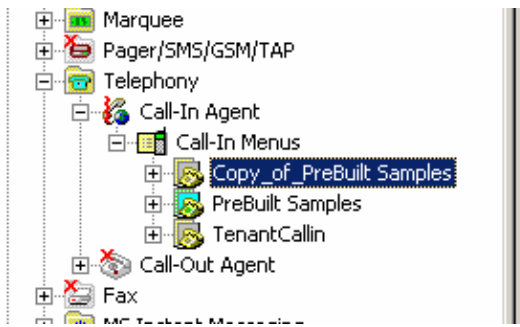

Figure 9.8. Copy of Group or Menu
- The copy of the group or menu appears under the target folder, as shown in **Figure 9.8**. Rename the group or menu as desired.